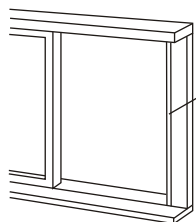

Fig.14
1. Cut the foam seal(adhesive type) to the proper length and attach it to the window frame, Fig.14.